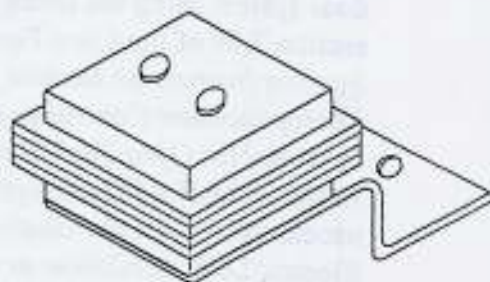

Figure 1
3. Assemble the bracket and transformer with the screw located on the transformer. See Figure 1.
6. Drill an access hole in the nut track flanges large enough to fit the bolt head. Install two (2) 3/8-16 x 1/2 bolts into the bolt head track. Slide the bolts next to the belt tensioning bracket. It may be necessary to temporarily remove a rectangular plate holding the track in position to locate the two bolts. Install the Electric Lock Assembly using these bolts. Orientate the lock so the movable cam is in the down position. Locate the lock so that the center of the cam is 11 3/4 inches from the jamb tube.